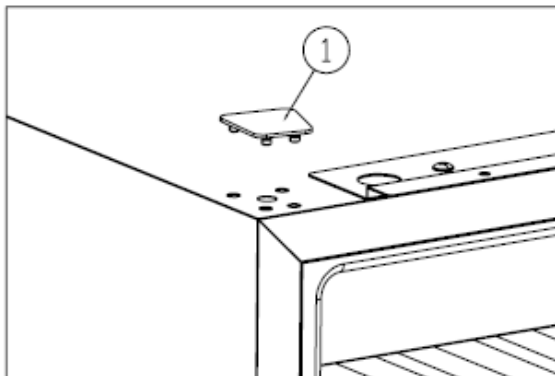

Figure 3
- ✧ Retirez le cache ①. [Figure 3]